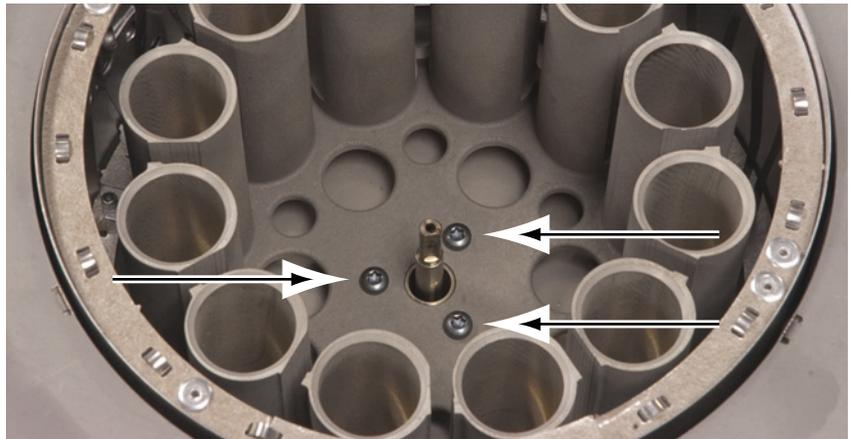

Figure 20 Removing the carousel
- a Remove three T-20 Torx screws from the center of the carousel (Figure 20).